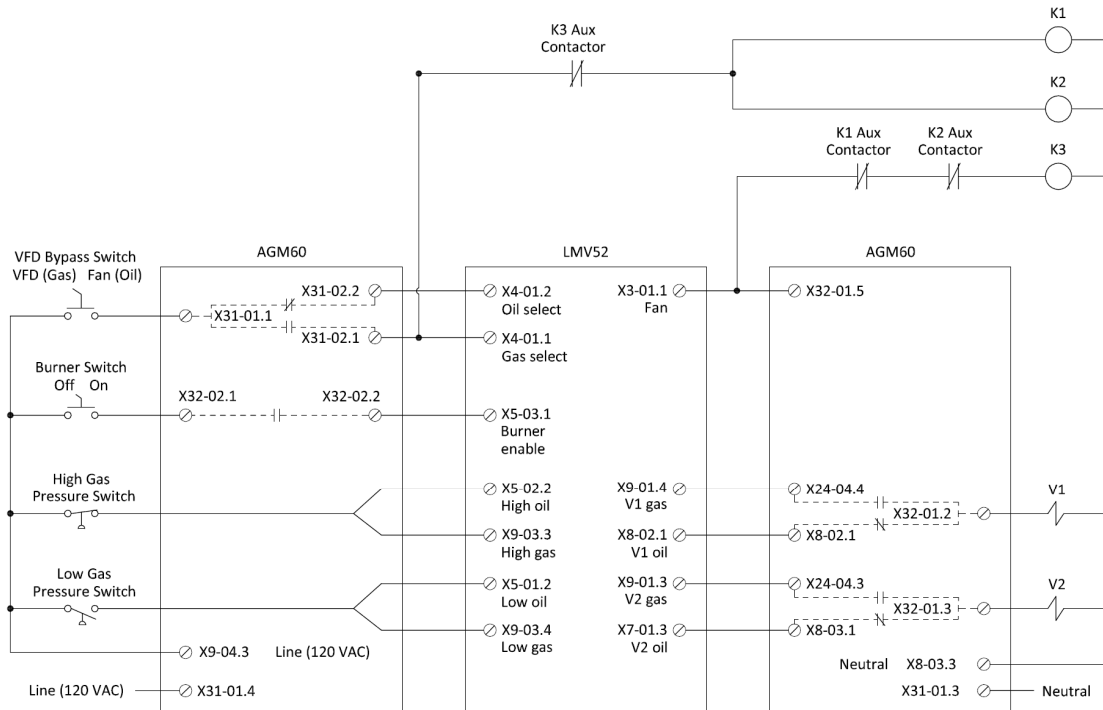

Figure 22: LMV52 and AGM60 Wiring for Single Fuel VFD Bypass
- Wire the LMV52, AGM60, and motor contactor coils as shown in Figure 22.